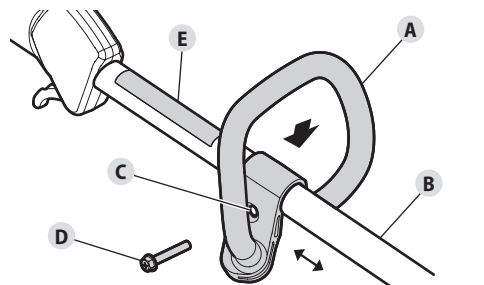

Fig. 10
1. Push the handle (Fig. 10-A) down onto the upper shaft housing (Fig. 10-B). Make sure the bolt hole (Fig. 10-C) faces to the right.
2. Insert the bolt (Fig. 10-D) into the bolt hole and push it through. Tighten the bolt with a flat-head screwdriver, but do not tighten the bolt completely.
3. Hold the unit in the operating position (Fig. 16). Move the handle up or down the upper shaft housing to a comfortable location. Make sure the handle is positioned beyond the end of the safety label (Fig. 10-E).
1. Loosen the bolt (Fig. 10-D) with a flat-head screwdriver.
2. Hold the unit in the operating position (Fig. 16). Move the handle up or down the upper shaft housing to a comfortable location. Make sure the handle is positioned beyond the end of the safety label (Fig. 10-E).